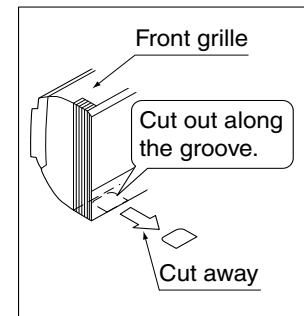

Fig. 4
- Check the location for the hole using the included paper pattern for installation (3).
- Temporarily attach the installation panel (1) at the temporary-securing position on the paper pattern for installation (3) and use a level to make sure the drain hose is either level or tilted slightly downward.
- Secure the installation panel (1) to the wall using either screws or bolts.
- If using the attachment screws for the installation panel (2), attach using at least 4 screws on either side (for a total of 8 screws (07, 09, 12 type), 9 screws (18, 24 type)) of the recommended installation cleat position on the included paper pattern for installation (3).
(3) If using the left, bottom-left, or bottom-right positions for the piping, cut out the through-hole for the piping in the front grille. (Refer to Fig. 4)